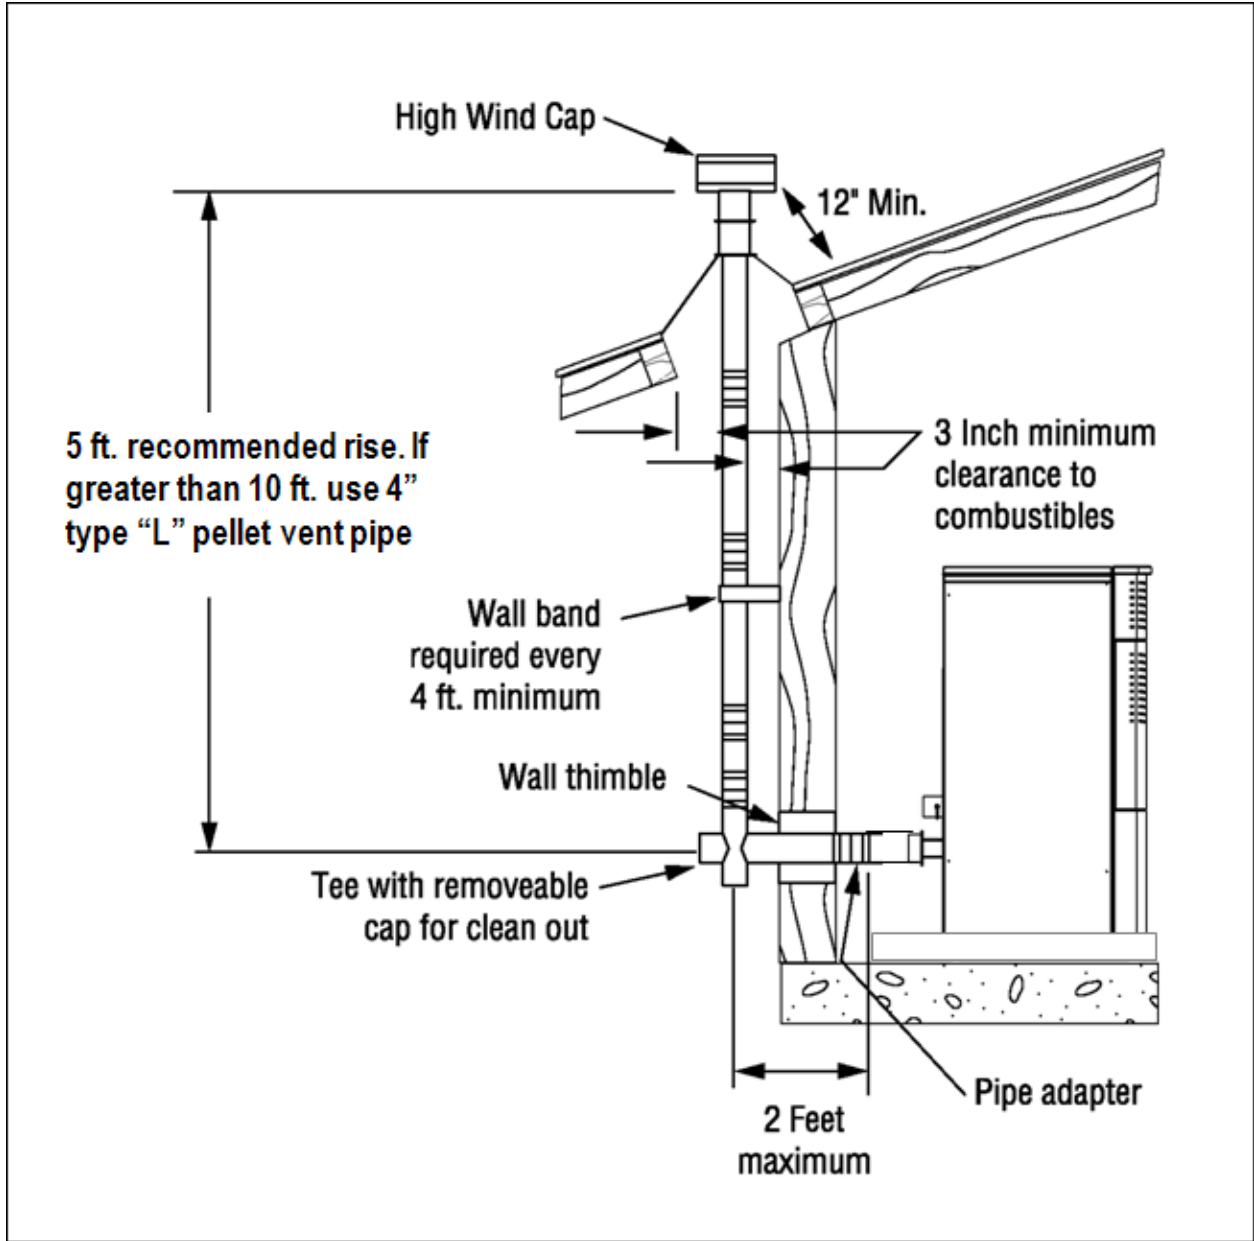

FIGURE 4
- a. **ALL VERTICAL RUNS REQUIRE 4" TYPE L PIPE. (FIGURE 4 and 5)**